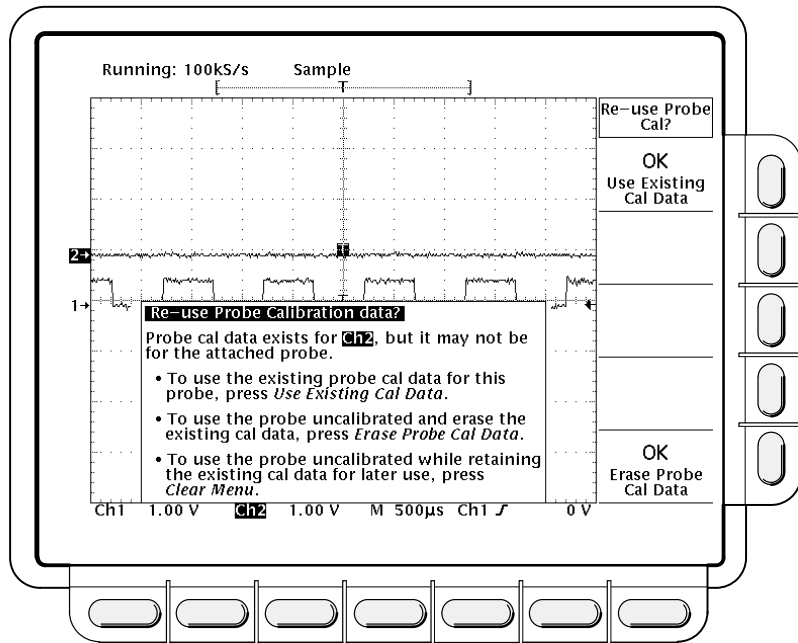

Figure 3-36: Re-use Probe Calibration Data Menu
- If a probe has a simple oscilloscope interface and the probe attenuation factor is the same as was stored at the last Probe Cal, the oscilloscope cannot determine whether it is the same probe. Therefore, it displays the *Re-use Probe Calibration data?* menu (see Figure 3-36).